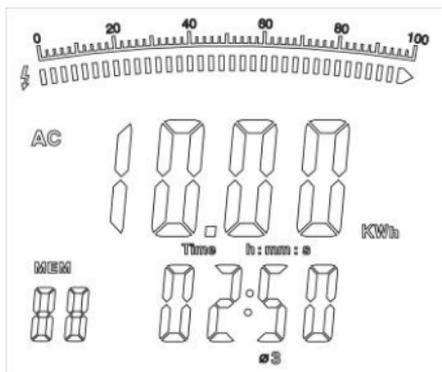

Figure 21
4. Press **SEL** to choose one of the three phases, see figure 21.